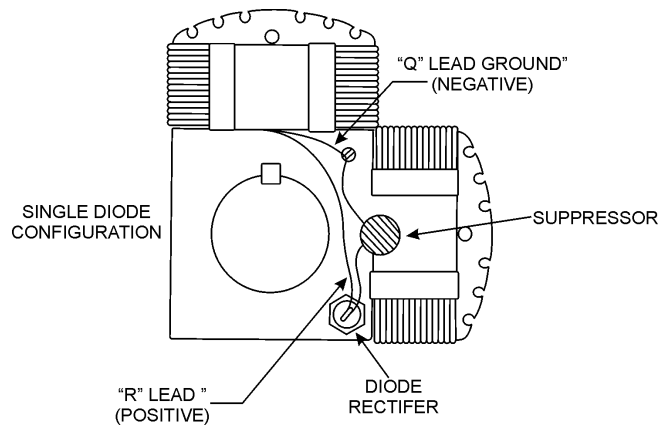

Figure 16. Flashing The Rotor Configuration
2. Connect the (+) lead of a 12 volt battery to the "R" connection (Figure 16).
1. Check the diode individually by removing the (+) **rotor lead stud** connection (Figure 16). The diode is good if the resistance reading is approximately mid-scale on the lowest ohm scale.